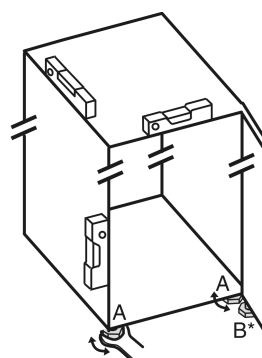

Fig. 4
- ▶ Unscrew the adjustable feet Fig. 4 (A) using the enclosed open-end spanner and a spirit level until the appliance is firmly aligned and level.
- ▶ Unscrew the adjustable foot *Fig. 4 (B)* on the swap bearing block with the enclosed open-end spanner until it rests on the floor.
- ▶ Turn the adjustable foot *Fig. 4 (B)* 90° further.